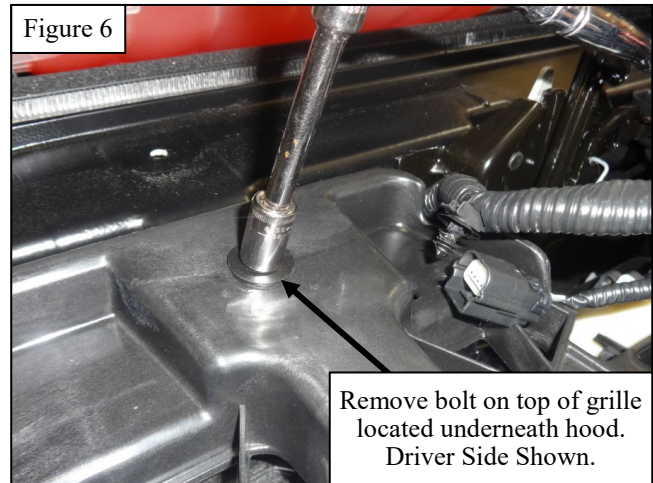

Figure 6
5. **For 2015-2017 Models Only:** Remove all factory hardware and clips attached to grille, then remove grille. See **Figures 6 through 12** for reference.